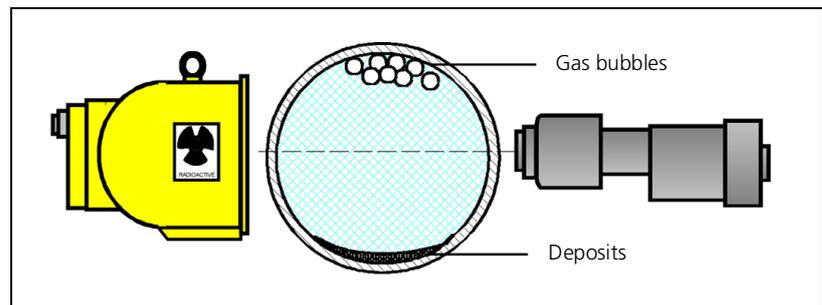

Fig. 2-3 Installation on a horizontal pipeline
- Measurements on *horizontal pipelines* should be performed using horizontal irradiation to reduce errors caused by deposit formation and gas bubbles. This will also help to avoid errors due to deposits or gas bubbles (see Fig. 2-3).